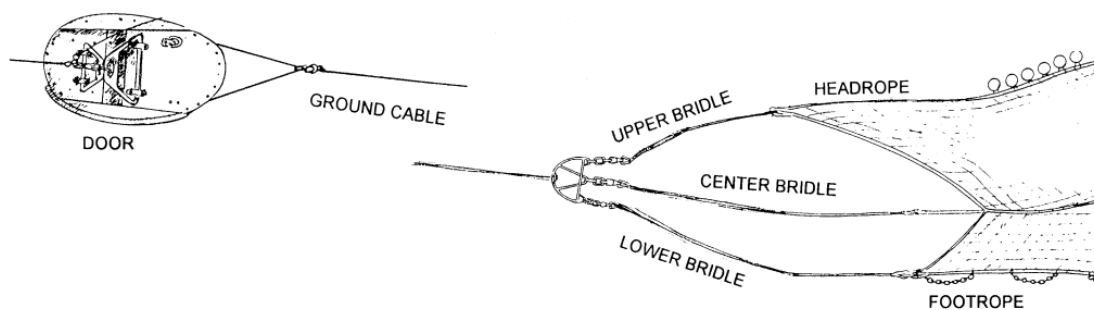

Figure 16. Trawl doors, ground cable, bridles, headrope, and footrope.
**Bridle:** Connects the wings of the net to the ground cable, which eventually leads to the doors (see FIGURE 16). In the pair trawl fishery, the bridle is a line coming directly off a net wing, connecting to a warp.